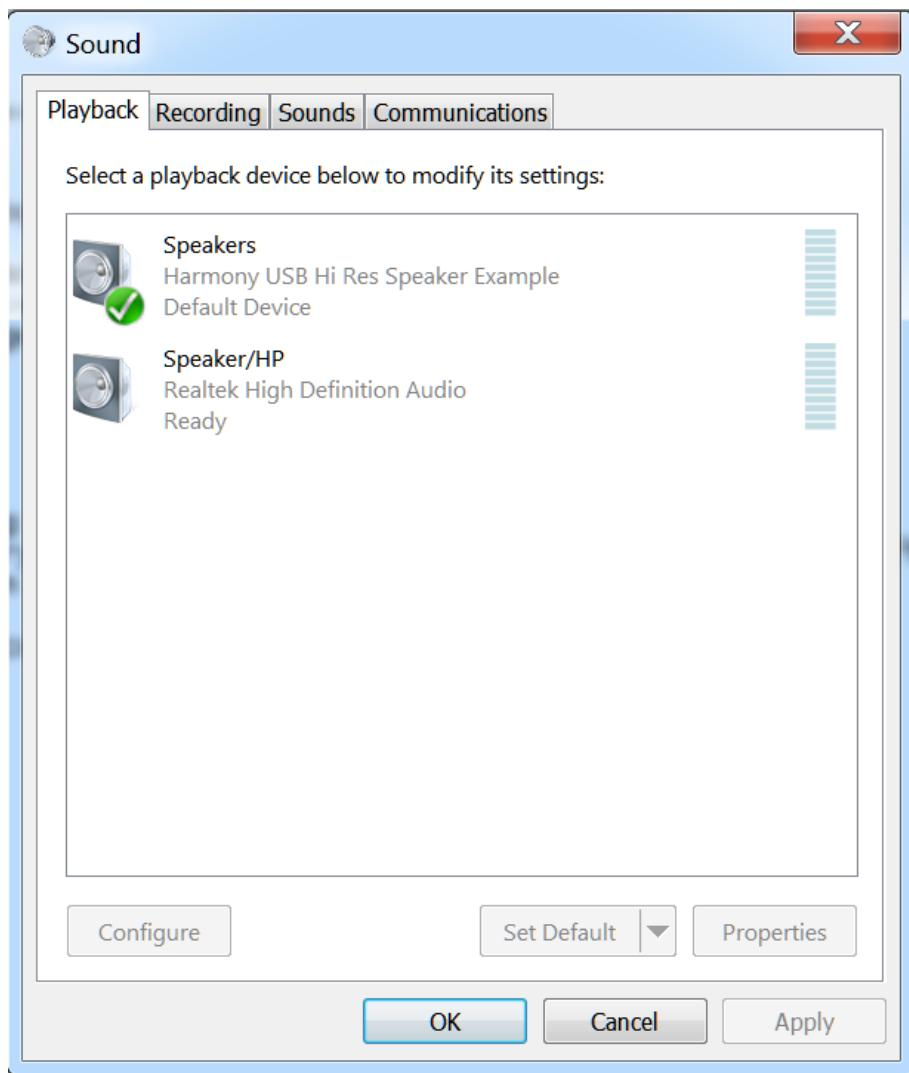

Figure 2. Windows 7 Sound Dialog showing USB Microphone with Sound Level Meter
- If needed, configure the Host computer to use the `usb_speaker` as the selected audio playback device. For Windows, this is done in the "Playback" tab in the "Sound" dialog (as shown in Figure 2) accessed by right clicking the loudspeaker icon in the taskbar.